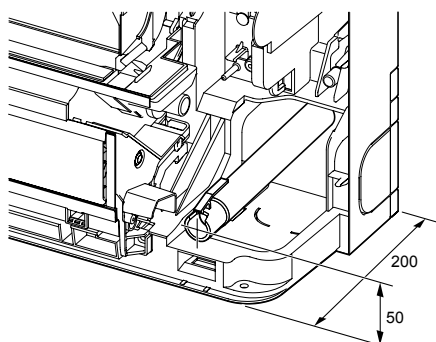

Fig. 5-3
- When routing the drain piping, make sure that the drain hose is routed as shown. (Fig. 5-3)